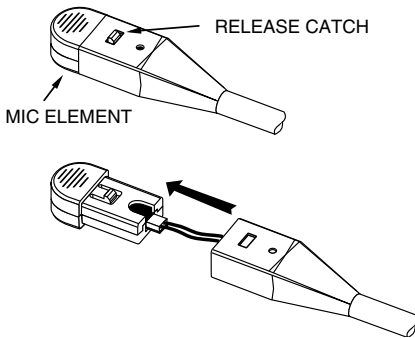

FIGURE 4. Mic Element Rotation
2. Turn the **microphone element over** and reinsert it as shown in Figure 4.